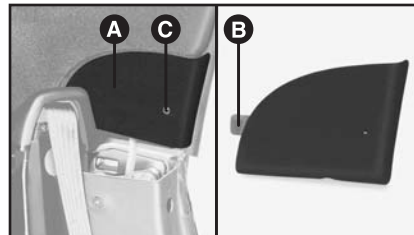

fig. 62
2) Remove the side inner panels **A**-fig. 62 from the hard top covering by unscrewing the fixing screws.
7) Fit side panels **A**-fig. 62 by inserting tongue **B** into its position in the hard top upholstery and fix them into position with screw **C**.